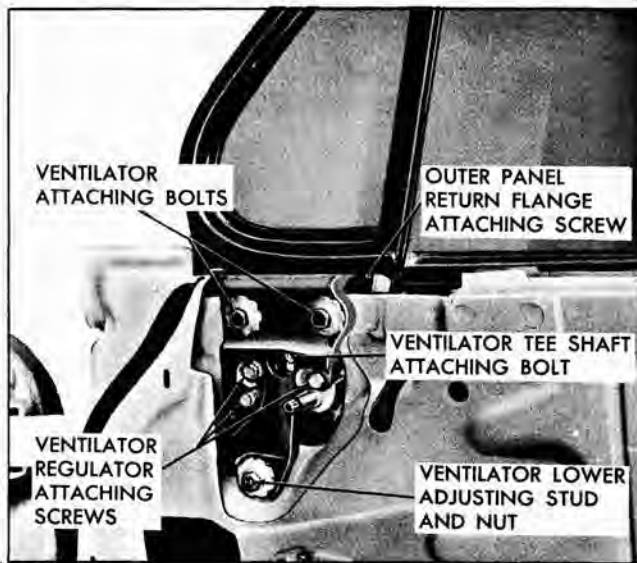

Fig. 3-25 Ventilator Regulator—Hard Tops
2. Remove ventilator tee shaft attaching bolt and ventilator regulator attaching screws (Fig. 3-25).
1. Excessive "play" (flutter) of ventilator at pivot shaft when ventilator is in open position can be corrected by tightening ventilator tee shaft to regulator shaft attaching bolt (Fig. 3-25).
2. Lower door window. Remove ventilator to door outer panel return flange attaching screw (Fig. 3-25).
4. Remove ventilator division channel lower adjusting stud and nut (Fig. 3-25).
5. Loosen ventilator frame adjusting stud nut and remove ventilator attaching bolts (Fig. 3-25); then carefully lift ventilator assembly upward and rearward and remove from door.